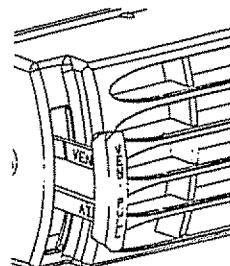

FIG. 3 (VENT)
- For most installations in the window, this front may need to be removed to access the filter for cleaning (Figure 3). To remove the front, reverse the installation process for Side Air Discharge Models shown in Front Installation.